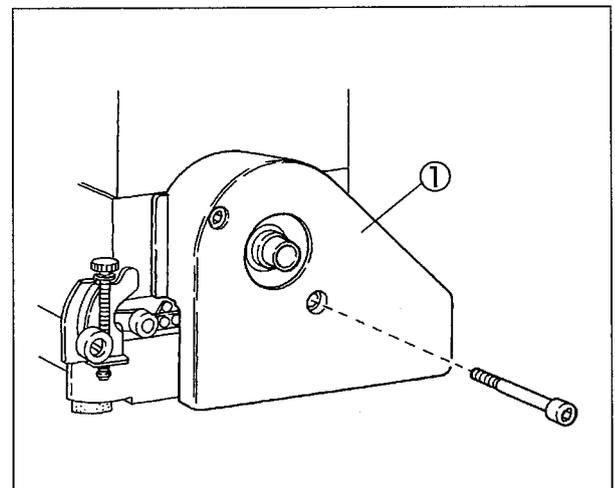

Fig. 2-11
- (1) Install the belt cover ①. (See Fig. 2-11)